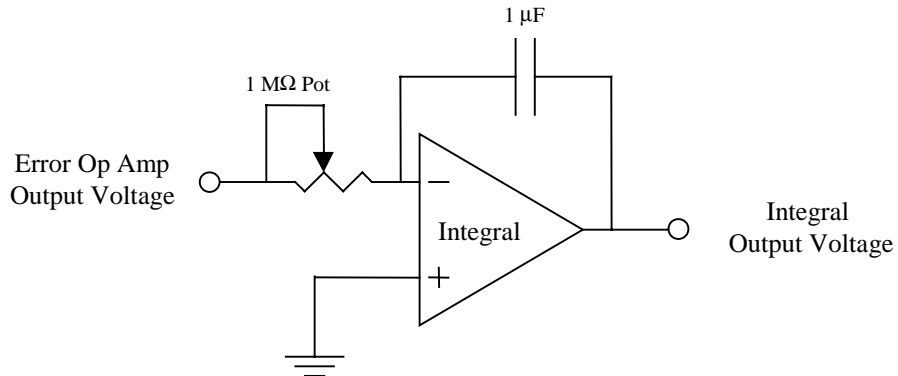

Figure 19a: Circuit diagram of integral controller
8. Connect the integral op amp as shown in Figs. 19a-b. The pot should be connected using the top and center leads. This way the resistance will decrease as the knob is turned to the right.